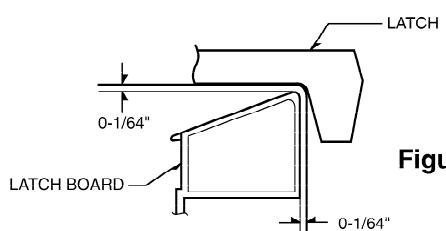

Figure 25
<p>(2) Terminal to case</p>  <p>Figure 25-b</p>	<p>Normal readings: Infinite.</p> <p>Abnormal reading: Indicates continuity.</p>